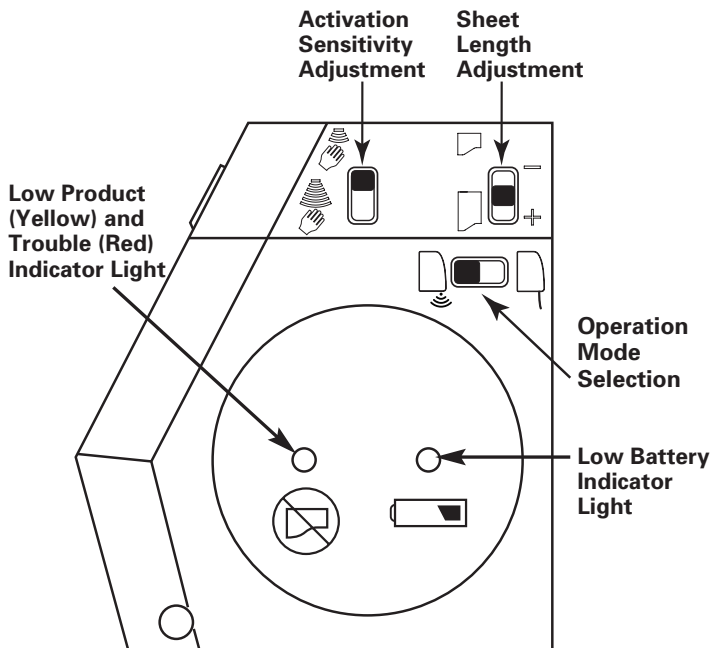

Fig. 6
- E. When battery power is low, Low Battery Light will turn on. (Figure 6)
- To select “Hidden” mode, slide the switch to the icon. (See **Chart 1** and **Figure 6**.) In this mode, a sheet will be dispensed when a hand is detected under the dispenser.
- To select “Hang” mode, slide the switch to the icon. (See **Chart 1** and **Figure 6**.) In this mode, a sheet is already hanging out of the dispenser. Each time the sheet is torn, another will automatically dispense.
B. Adjusting the Activation Sensitivity. To adjust the activation sensitivity set the  switch as desired. (See **Chart 2**, the note below it and **Figure 6**.)
C. Adjusting the sheet length. To adjust the length of sheets that are dispensed, set the  slide switch to short, medium or long as desired. (See **Chart 2** and **Figure 6**.)
D. Indicator Lights (Figure 6):